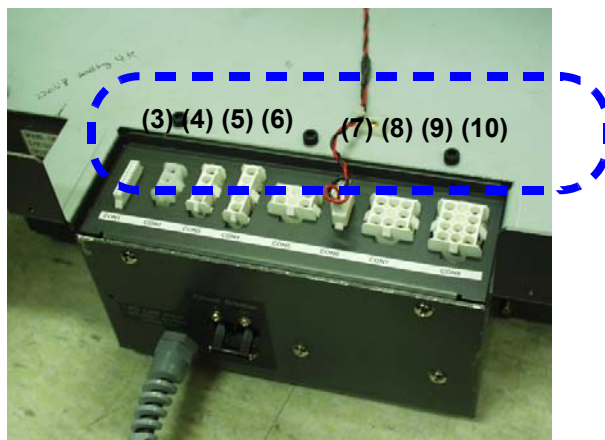

Figure 8-125 Disconnecting 8 connectors
- 2.) Disconnect eight (8) connectors (3-10). Refer to Figure 8-125 on page 8-75 ..